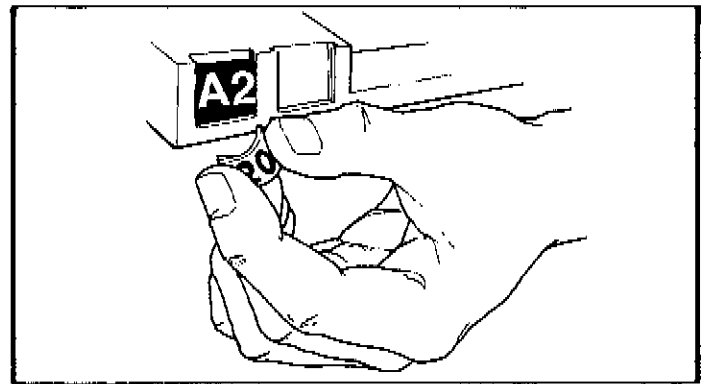

Figure 7. INSTALLING PRICE TABS.
11. **INSTALL PROPER PRICE TABS** into price tab holder for each selection in the main product area. (See Figure 7).